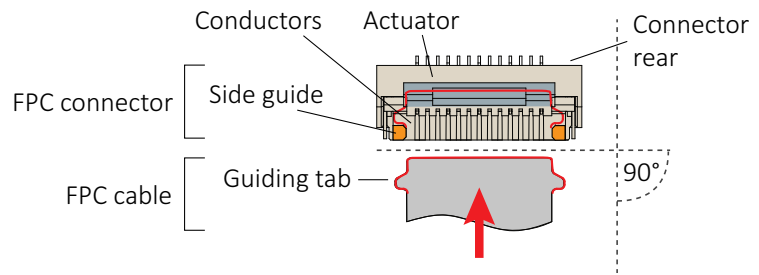
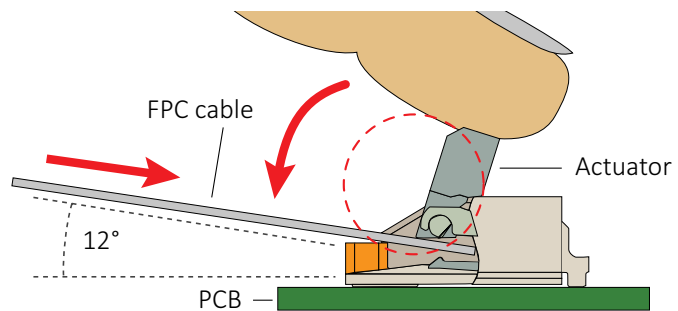

Figure 15: FPC cable and FPC connector
Figure 16: Engaging the FPC cable in the FPC connector
2. **Ensuring proper cable orientation between devices to be connected**, take the FPC cable with conductors facing the FPC connector conductors (see Figure 15 on page 42).
At a horizontal angle of 90° to the connector's rear (see Figure 15) and at a vertical angle of 12° to the PCB (see Figure 16), slowly insert the FPC cable into the actuator...
4. ...until cable guiding tabs are caught between connector rear and side guides (see Figure 15). Pull the cable slightly to ensure guiding tabs are properly engaged.
5. Holding the FPC cable in position, flap down the actuator to closed position (see Figure 16).